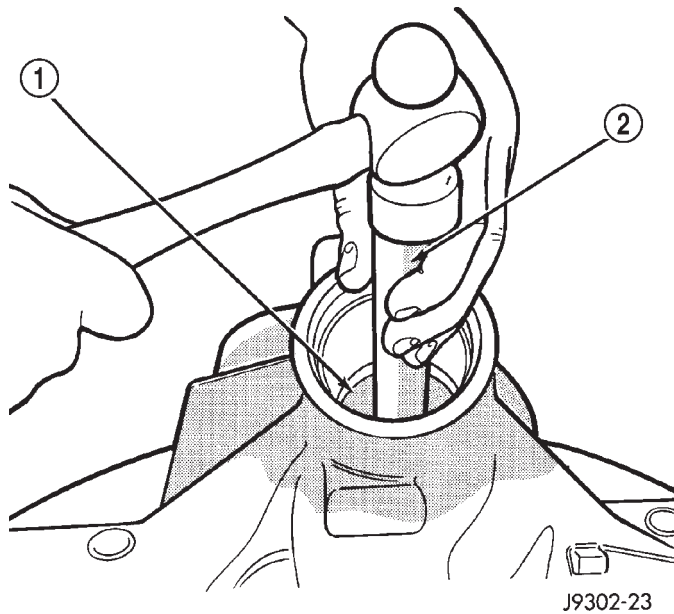

Fig. 41 Rear Bearing Cup Removal
(8) Remove the rear pinion bearing cup and oil slinger from the axle housing (Fig. 41). Use Remover D-149 and Handle C-4171. Record the thickness of the oil slinger for future reference.